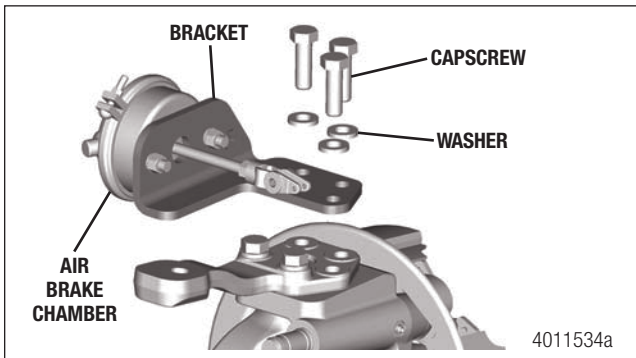
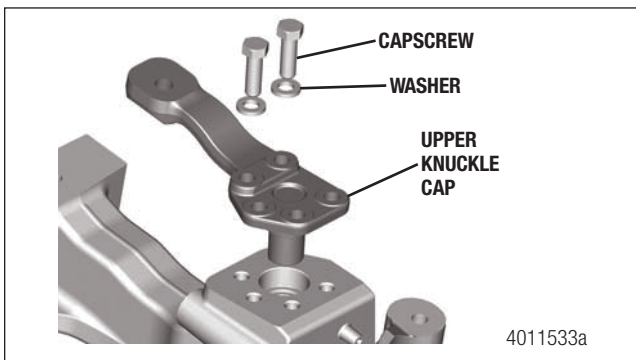

Figure 5.29
Figure 5.30
4. Remove the air chamber mounting bracket. Figure 5.29. Remove the upper knuckle cap from the bore. Figure 5.30. Inspect the cap for wear and damage. Replace damaged or worn parts.